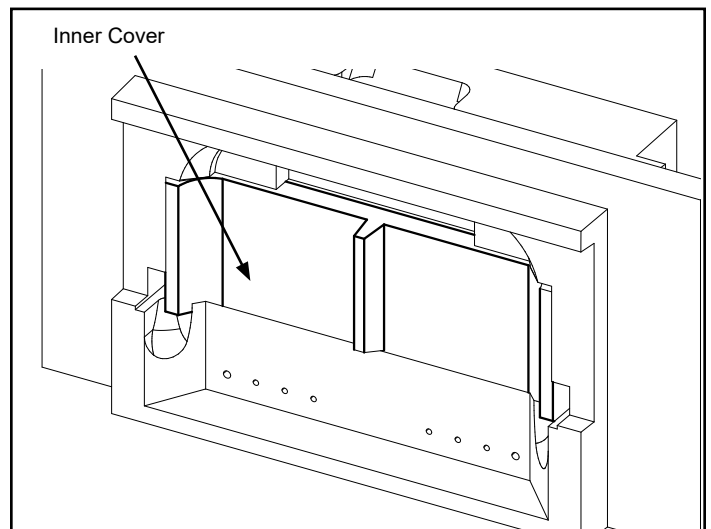

**Figure 5.11 - Remove inner cover.**
2. Remove the inner cover by pulling it straight out, Figure 5.11.